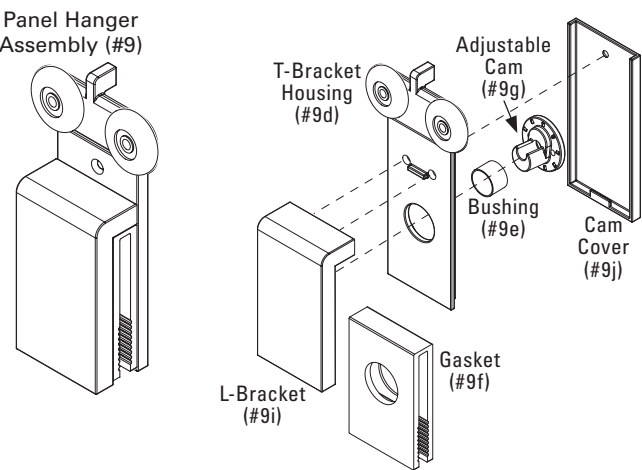

Figure 6
- B. Locate two of the four pre-assembled Clamp Assemblies, each consisting of T-Bracket Housing, L-Bracket, Adjustable Cam, Bushing, Cam Cover and five screws (See **Figure 6**).